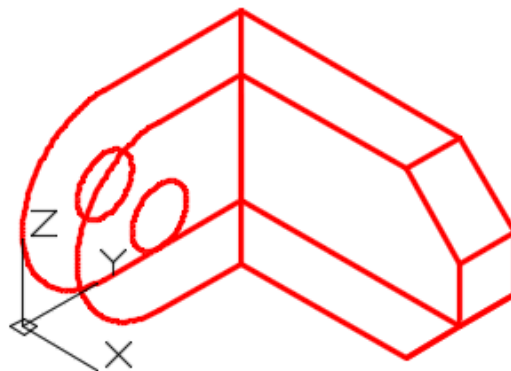

Figure Step 18
Step 18 Set the current UCS to World. (Figure Step 18)